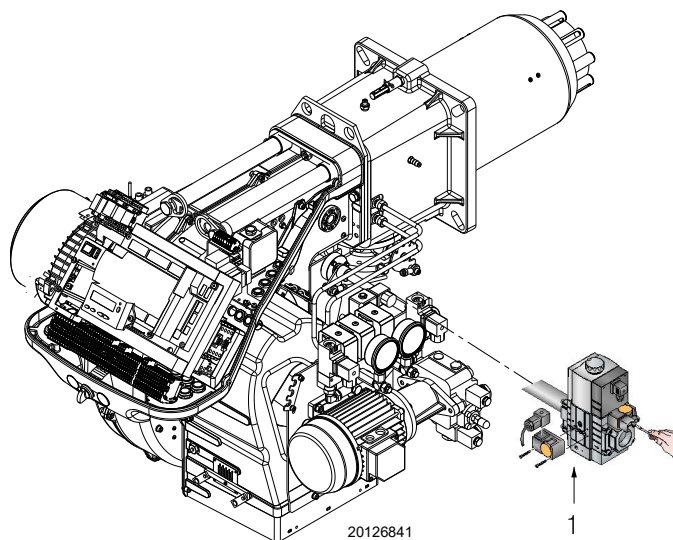

Fig. 39
- Check the gas supply pressure by connecting a pressure gauge to the pressure test point 1)(Fig. 39) of the minimum gas pressure switch: it must be lower than the maximum allowed pressure of the gas train, as shown on the characteristics label.
- Bleed the air from the piping of the gas train, connecting a plastic tube to the pressure test point 1)(Fig. 39) of the minimum gas pressure switch. Take the vent tube outside the building so you can notice the smell of gas.